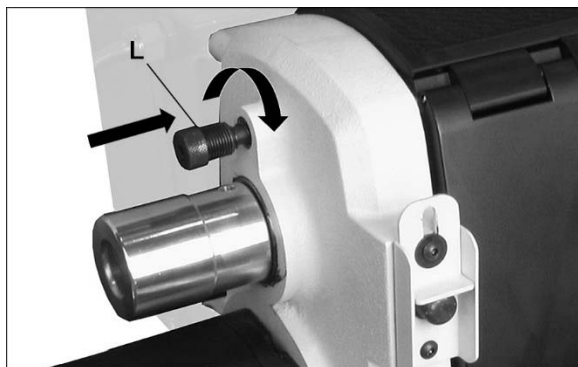

Figure 7-7
See Figure 7-7.
1. Rotate spindle using handwheel until index pin (L, Figure 7-7) aligns with desired hole.